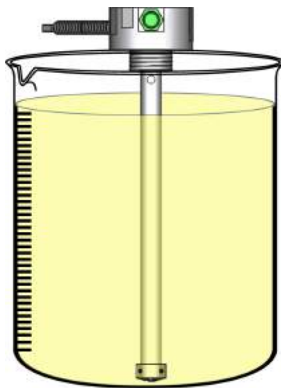

Figure 5: Test Tank
- Prepare a narrow transparent Test Tank, with its height equal to the height of the application tank as shown in the following figure (Figure 5).